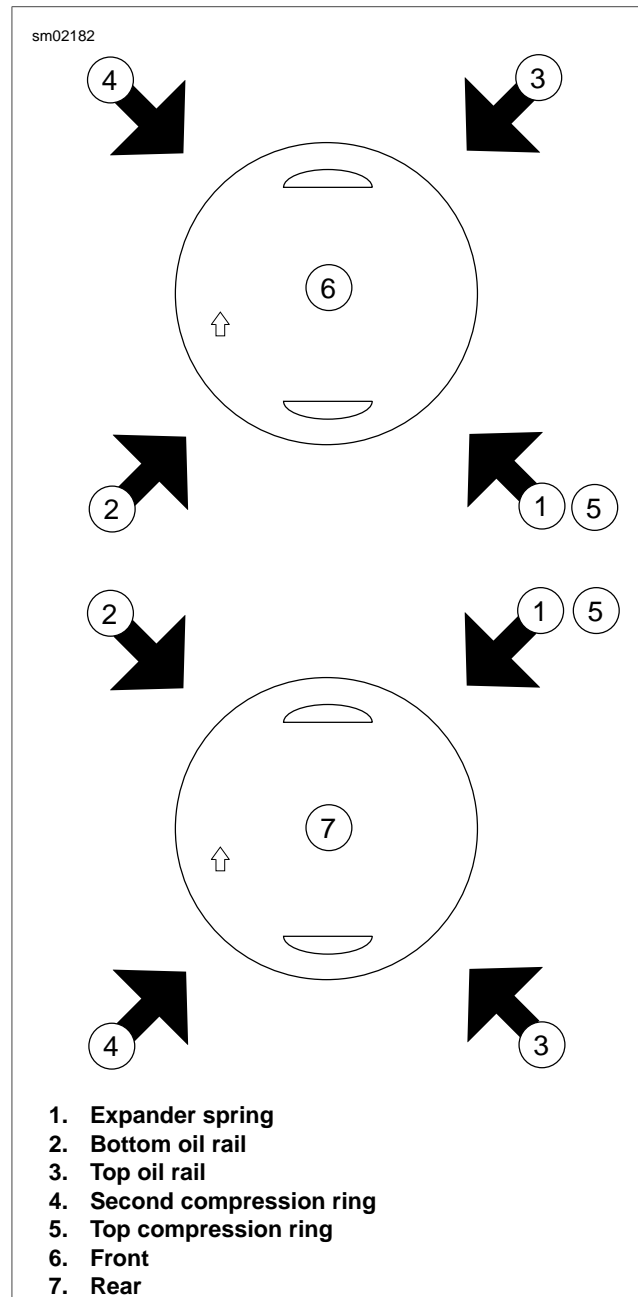

Figure 3-35. Piston Ring Alignment
3. See Figure 3-35. Verify that the piston ring end gaps are staggered. Rotate each ring to position the gap 90 to 180 degrees from the gap in the ring above it. Locate the top piston ring (5) gap towards the intake port.